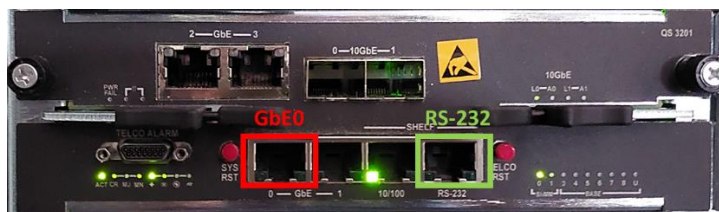

Figure 10: ETH1 Front panel socket of the Switch blade.
1. **Node connection:** Connect the QS3201 ShMM+Switch blade to the Ethernet network by plugging the RJ45 connector from the network into GbE0 sockets on the front panel (marked red in Figure 10)
To change the IP addresses of the ShMM and Switch blade from the default values the first time, connect to the console port on the front panel of the ShMM and Switch blade (marked green in Figure 10). The shelf manager is accessible by a serial RS-232 interface through a RJ-45 connector.